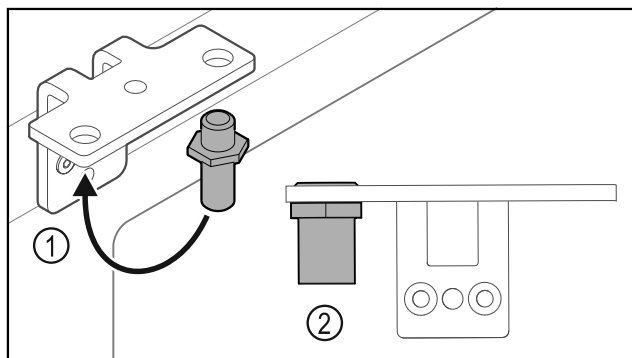

Fig. 27
- Put the pin back into the hinge Fig. 27 (1).
- Tighten the pin Fig. 27 (2) to a **torque of 12 Nm**.